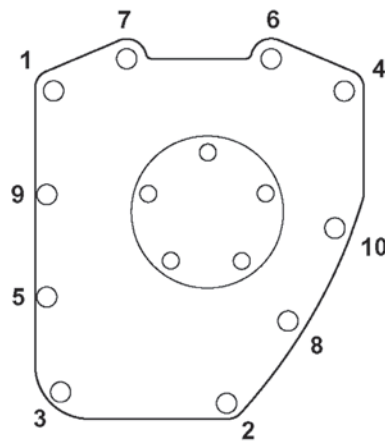

Figure 2
- V- Use a new cam cover gasket and install the cam cover. Tighten the cover bolts 90-120 in-lbs torque in sequence shown. **See Figure 2** above.